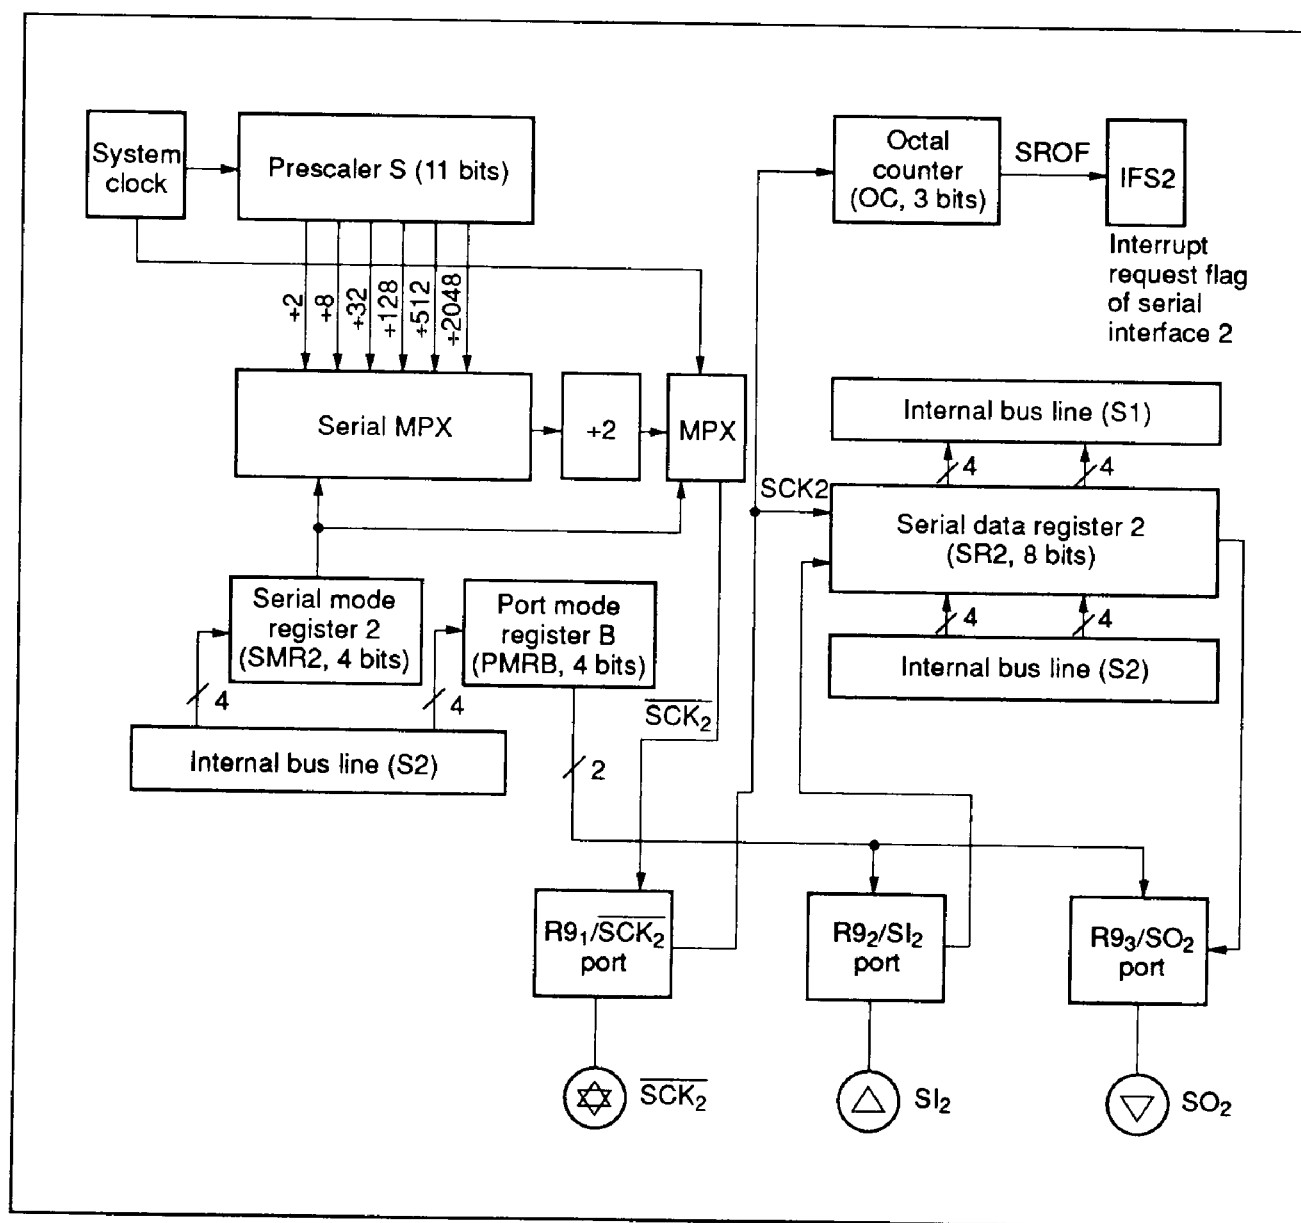

Figure 45 Serial Interface 2 Block Diagram
**Serial Interface 2:** Used to serially transmit and receive 8-bit data. It consists of serial data register 2 (SR2), serial mode register 2 (SMR2), port mode register B (PMRB), an octal counter, and a multiplexer as shown in figure 45. The  $R9_1/\overline{SCK}_2$  pin and the transmit clock are controlled by writing data to SMR2. The transmit clock shifts the contents of the SR2, which can be read and written to by software, and then transmission starts between two MCUs.